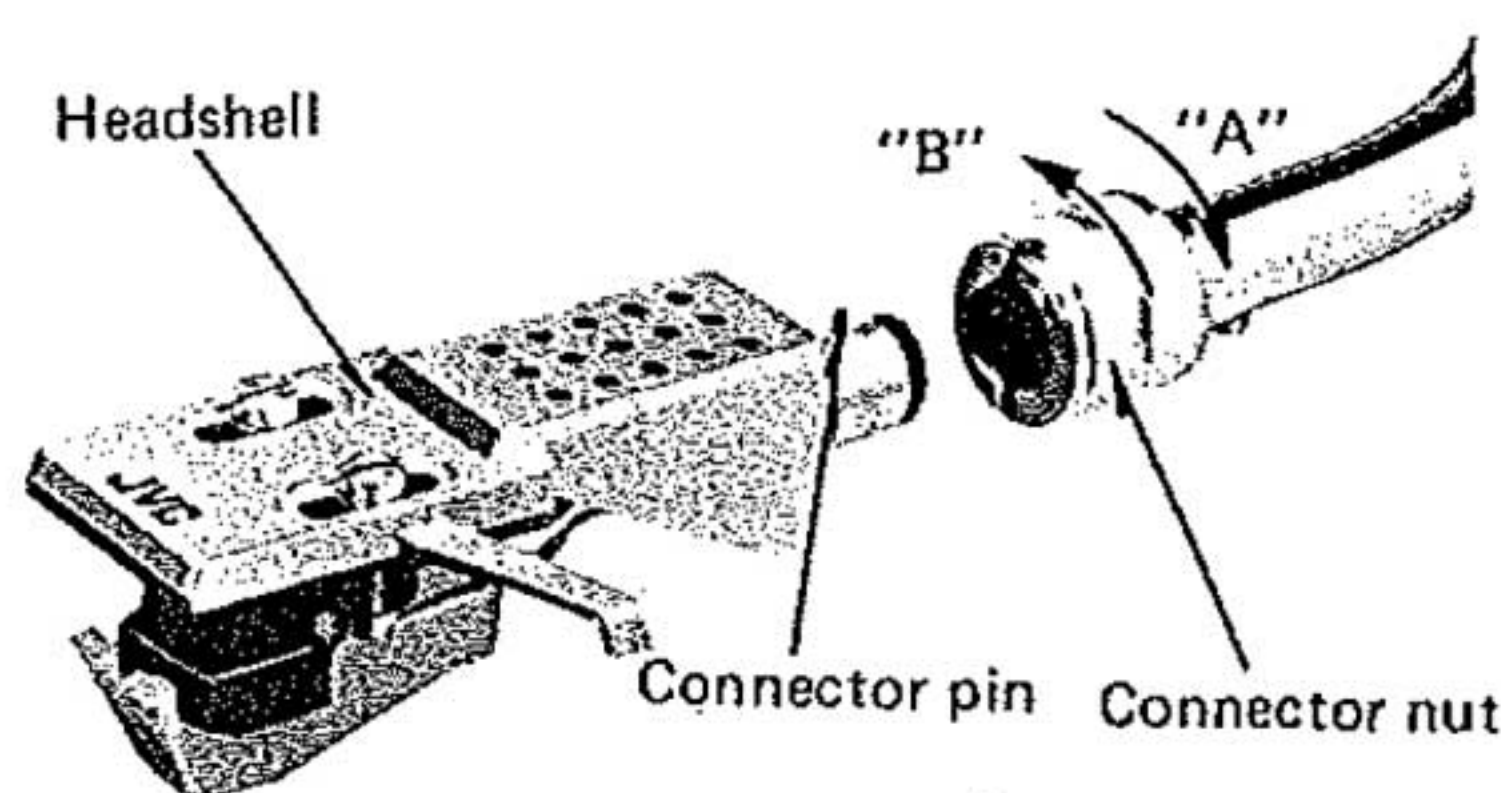

Fig. 9
- **Removal and mounting of the headshell (Fig. 9)**